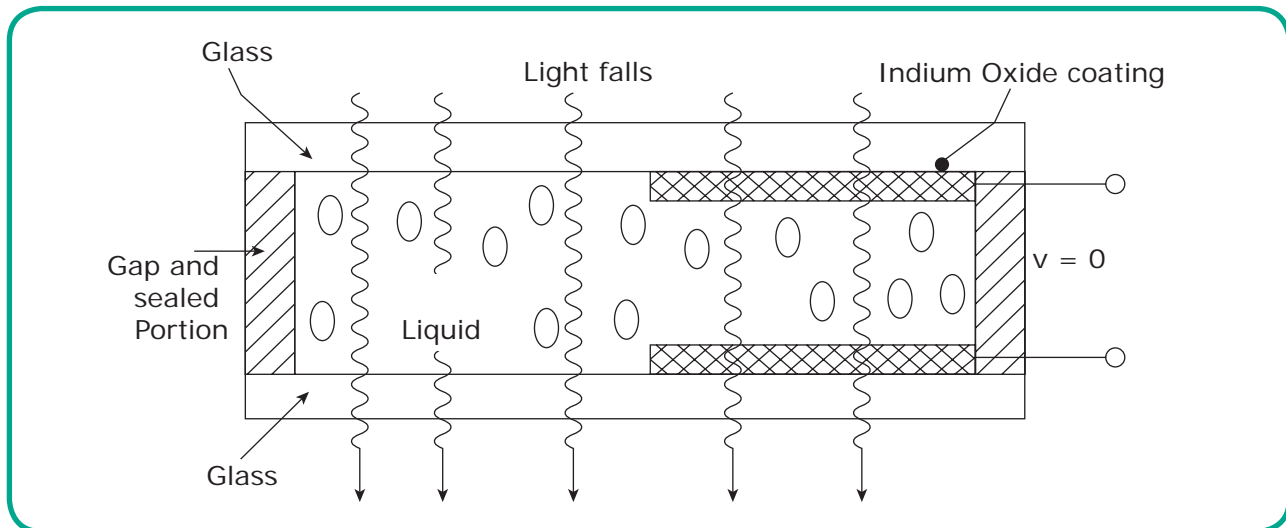

Figure 6.4(a) LCD Construction
**Construction:** Figure 6.4(a) shows the construction of dynamic scattering LCD. The display consists of two glass plates, each coated with tin oxide ( $\text{SnO}_2$ ) on the
**Working Principle:** Figure 6.4(b) shows the LCD working principle. When AC voltage is not applied to the plates of the molecules of liquid crystal, which align themselves in perpendicular (or parallel) direction and appear transparent. When a voltage is applied across the conductive